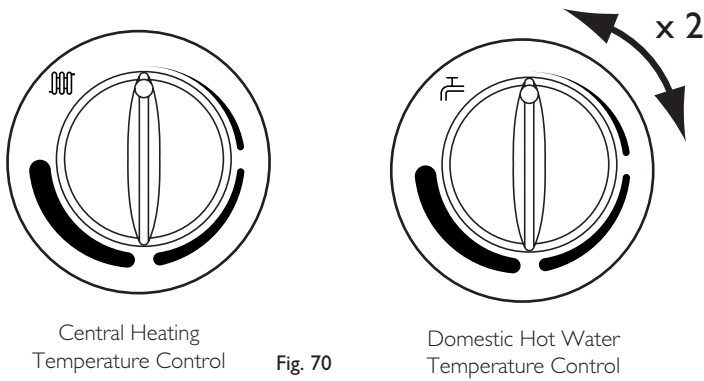

Fig. 70
4. Turn both temperature control knobs fully anticlockwise, then quickly turn the DHW temperature knob 1/4 clockwise twice and back fully anticlockwise (Fig. 70).